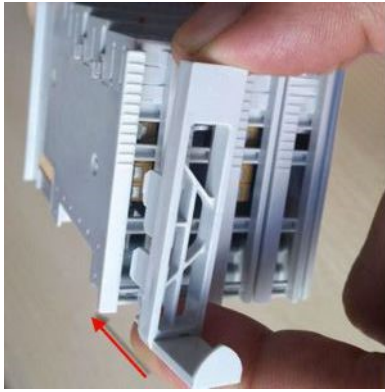

Figure 3-5: Engaging the holder for the fan cartridge
1. Assemble the terminals to be ventilated into a group with a width of 48mm and snap the holder on the left in the lower ventilation cut-outs of the first terminal to be ventilated, as shown in Figure 3-5: Engaging the holder for the fan cartridge.